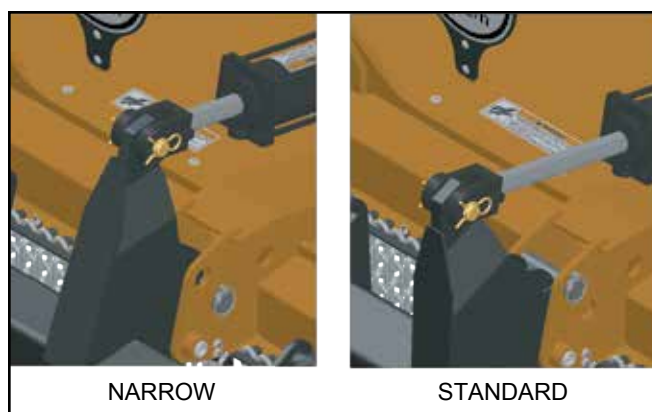

Figure 3. Transport Lock Pin in Standard & Narrow Width Positions
2. Remove klik pin and lock pin from storage position (Figure 3).
- **For road transport less than 10 feet wide, place lock pin in narrow transport position. See Figure 3.**